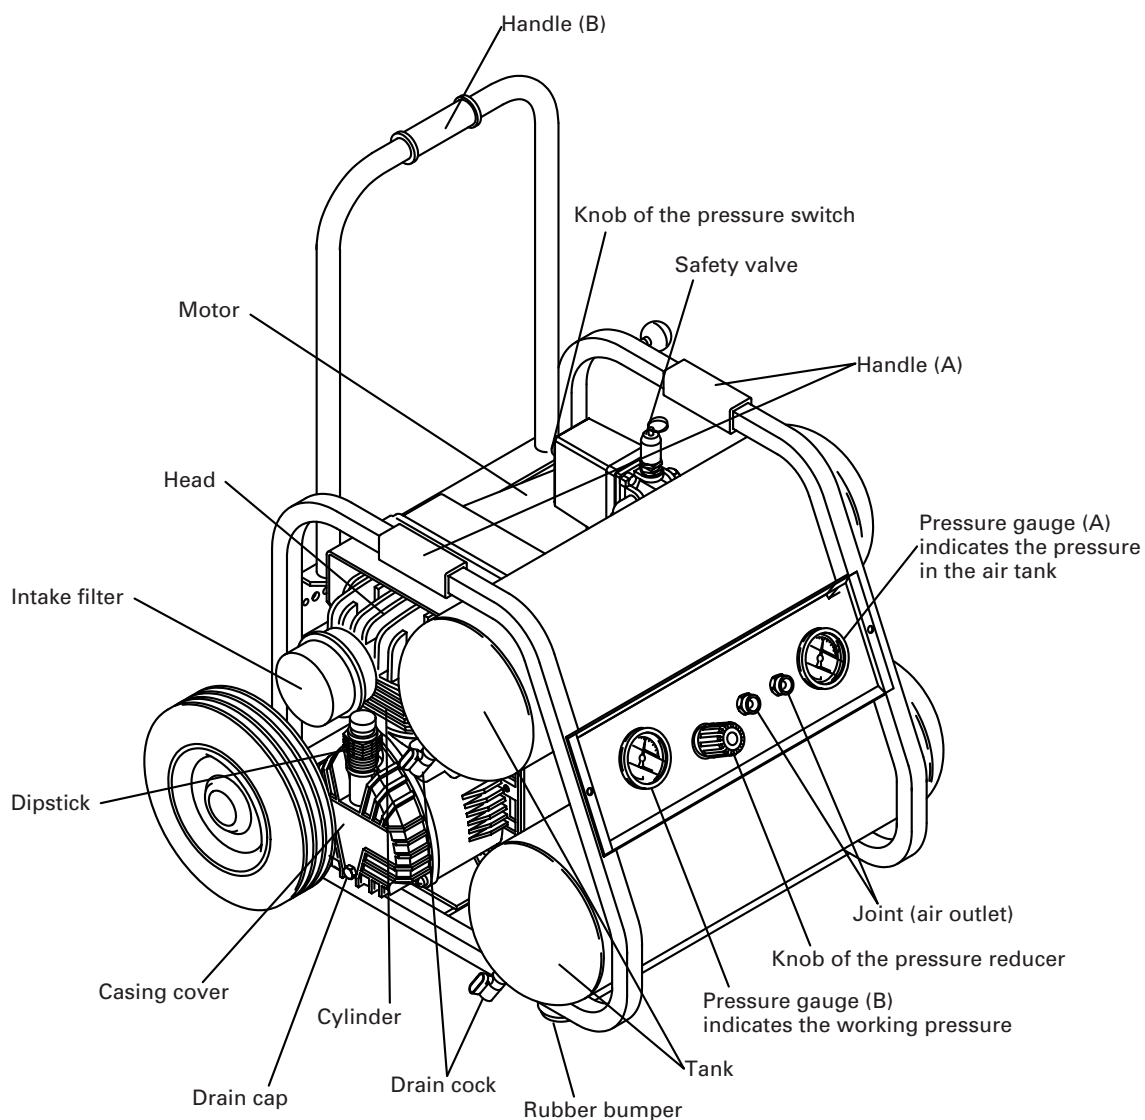
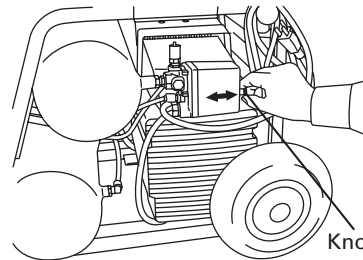
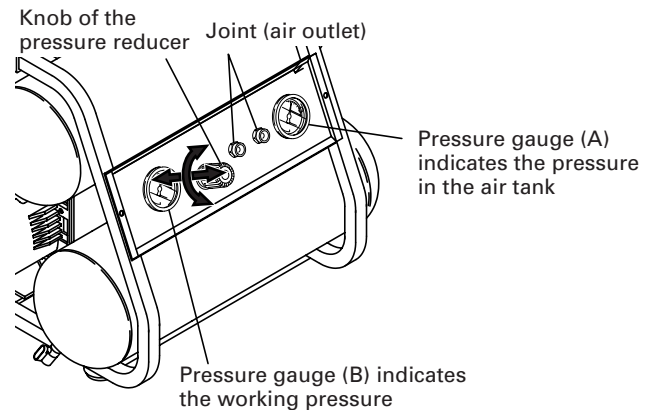
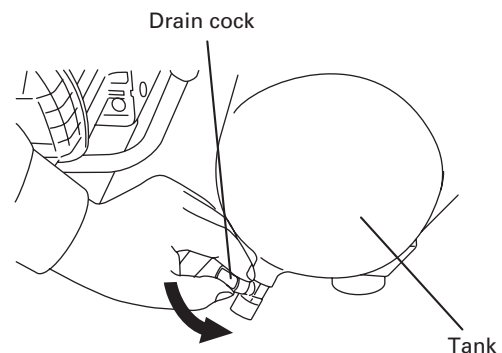

Fig. 1
Fig. 2
Fig. 7
Fig. 8
Ensure that the knob of the pressure switch is in the "OFF" position (Fig. 2). If the plug is connected to a receptacle while the knob is in the "ON" position, the compressor will start operating immediately and can cause serious injury.
Screw in the air coupler to the joint (Refer to Fig. 1 and Fig. 7). The screw size of the joint is 3/8". Use an air coupler which has the same screw size.
NOTE: When operating or storing the compressor, set 4 rubber bumpers downward on the floor. (Refer to Fig. 1)
- (1) Open the drain cock located at the lower part of the tank (Refer to Fig. 8).
- (2) Insert the plug into the receptacle.
- (3) Start the compressor by pulling the knob of the pressure switch to "ON" (Refer to Fig. 1 and Fig. 2).
- (4) Close the drain cock.
A pressure gauge (B) is provided to know when the required pressure is reached, lock the knob by pushing it down firmly (Refer to Fig. 7).
- (1) Push the knob of the pressure switch to "OFF" (Refer to Fig. 1 and Fig. 2).
- (2) Unplug the plug from power source.
- (3) Open the drain cock located at the lower part of the tank (Fig. 8).
- (4) Open the drain cock and confirm that the pressure gauge (A) indicates 0 PSI (0 bar) (Refer to Fig. 7 and Fig. 8).
- (5) Follow steps (2) to (4) in 1. Start up on page 12 and restart. If the motor still stops during operation, please contact the service center.
Drain tank daily or after 4 hours of use. Open drain fitting and tilt compressor to empty accumulated water (Refer to Fig. 8).